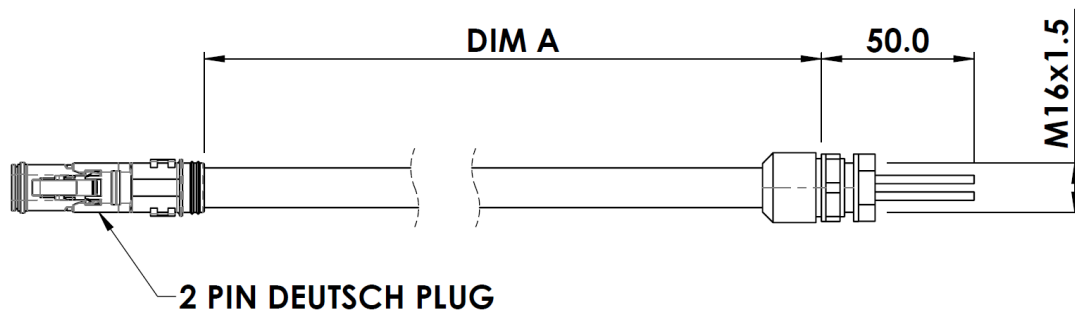

Figure 13 – Source Power Extension harness details
8. To facilitate simpler field wiring, Banlaw offers a range of source power extension harnesses. These are supplied with a mating 2-pin DT Series Deutsch plug and 2 bare cores with a cable gland for termination into an appropriate power source. Refer to Figure 13 and Table 4 for details and ordering information.